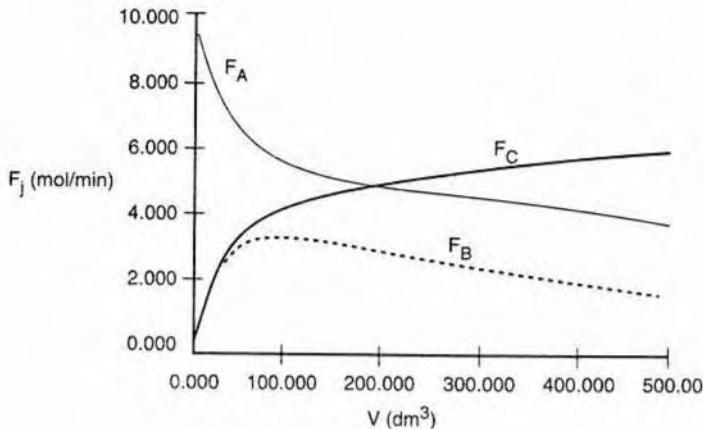

Figure E4-8.1 Polymath solution.
and Figure E4-8.1 shows the results of the numerical solution of the initial (entering) conditions.
- (c) From Figure E4-8.1 we see the exit molar flow rate of A is 4 mol/min, for which the corresponding conversion is